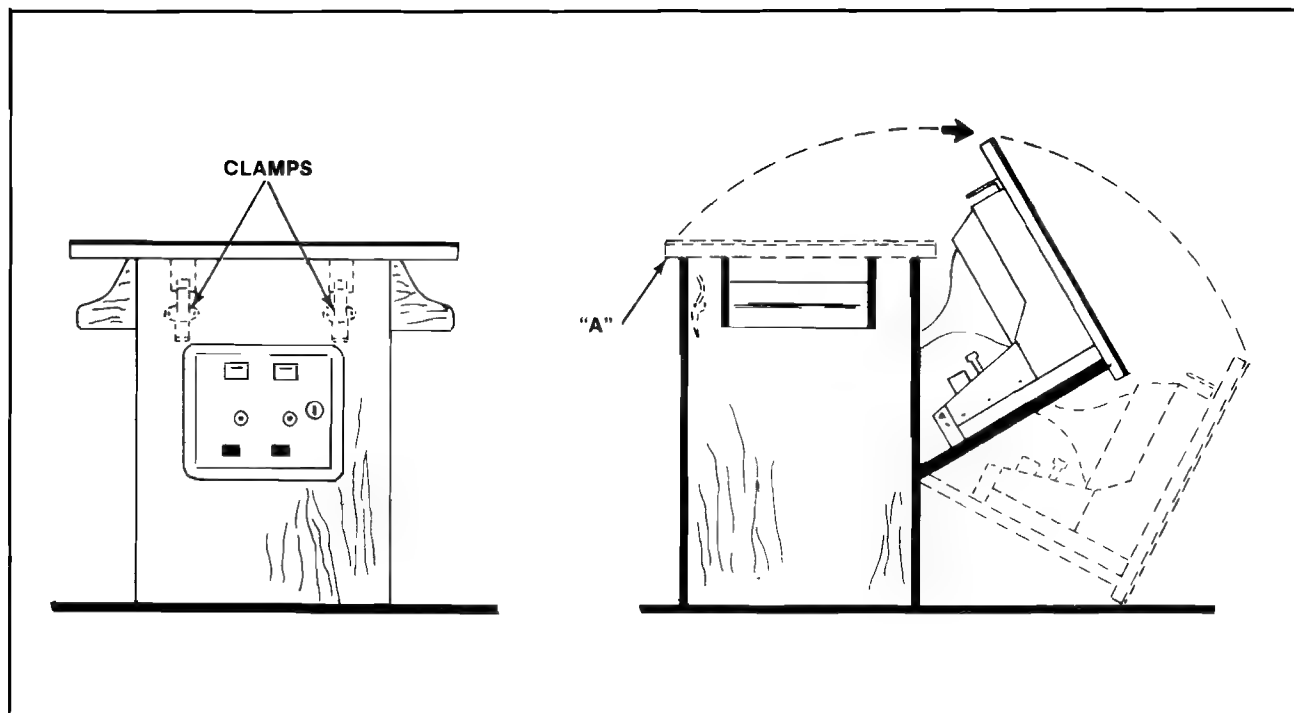

Figure 3-10 Opening the Cocktail Game
- ☐ Open the coin box door and release the two latches indicated in Figure 3-10.
- ☐ Grasp the table top at "A" and open it as indicated in Figure 3-10.
Open the coin box door and release the two latches indicated in Figure 3-10.